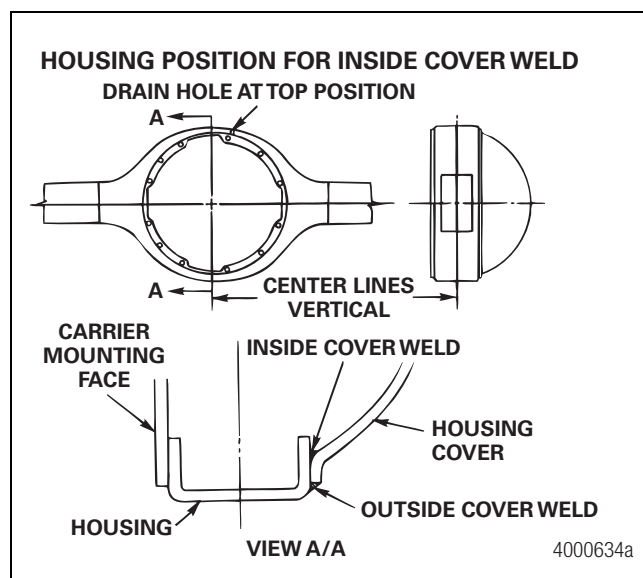

Figure 3.13
1. Position the housing for a flat weld by rotating it 180 degrees from the operating position it would be in under the vehicle. The oil drain hole will be at the top position and the center line of the housing must be vertical. Figure 3.13.